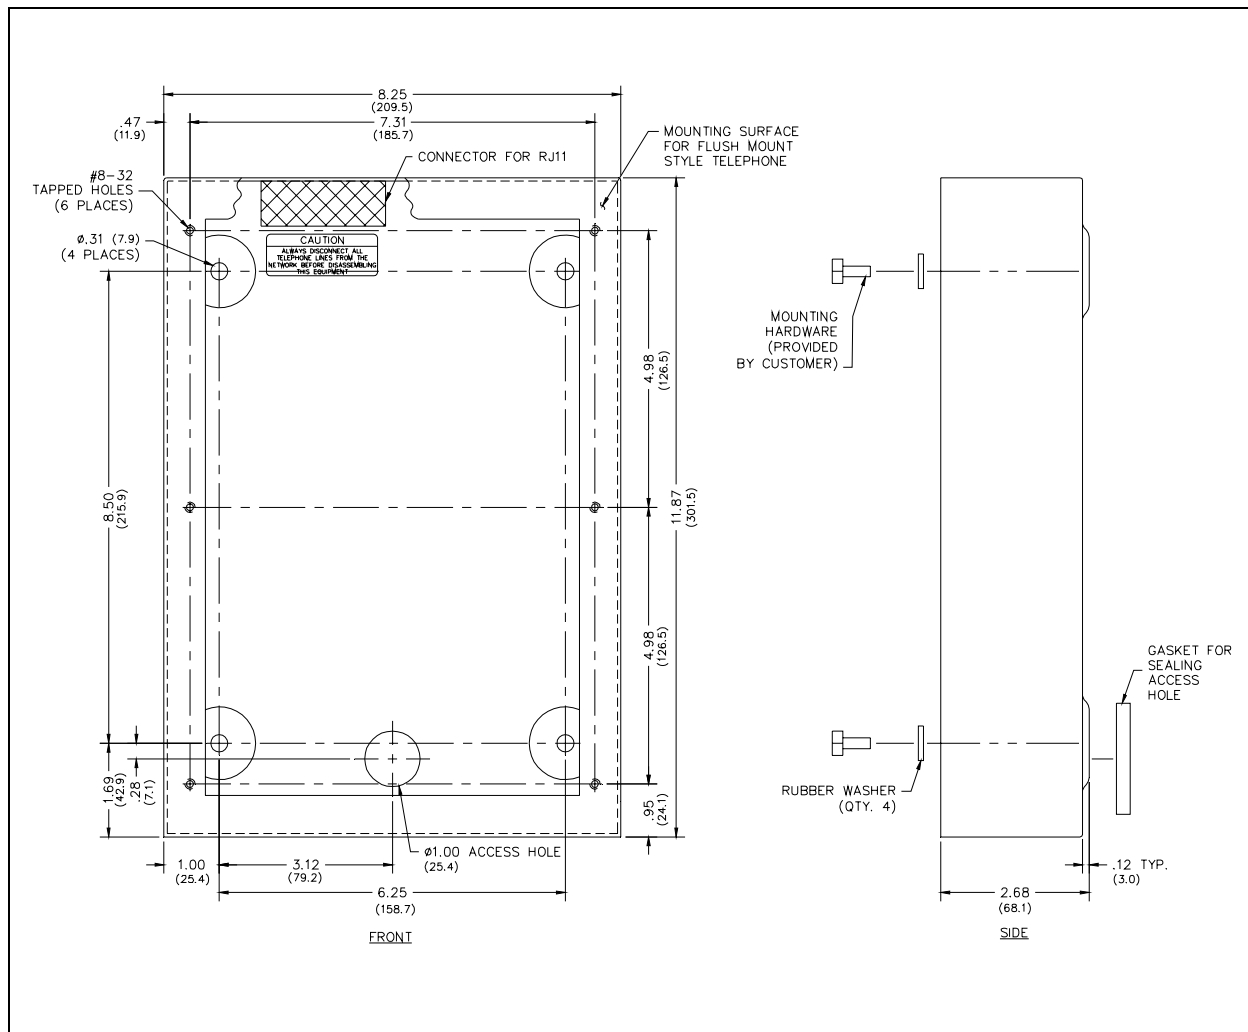

Figure 1. Model 238-001RT6 Surface-Mount Enclosure Outline
2. Mount the enclosure on a flat wall surface using the four 5/16-inch (0.312) diameter mounting holes as shown in Figure 1. Four rubber washers are provided to ensure sealing. Mounting hardware is not provided.
7. Remove the backing from the other side of the adhesive pad, and affix the telephone jack to the top of enclosure, positioning the RJ11 connector toward the inside center of the enclosure. See Figure 1.
9. Secure the CAUTION label to the rear surface of the enclosure, in proximity of the telephone jack. Refer to Figure 1 for recommended location.